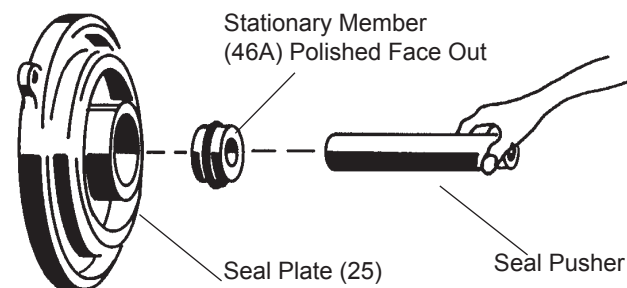

FIGURE 4
**Bearing** - When replacing bearing, be careful not to damage the rotor or shaft threads. Clean the shaft thoroughly. Slide conduit bushing (14) and washer (9) over motor shaft. Insert retaining ring (30) into groove on shaft. Apply adhesive compound to the shaft and press bearing (47) on the motor shaft, position squarely onto shaft applying force to the inner race of the bearing only, until bearing seats against retaining ring (30).
**Seal** - Clean and oil seal cavity in seal plate (25). Press stationary member (46a) firmly into seal plate (25), using a seal pusher, nothing but the seal pusher is to come in contact with seal face (See Figure 4). Make sure the stationary member is in straight.